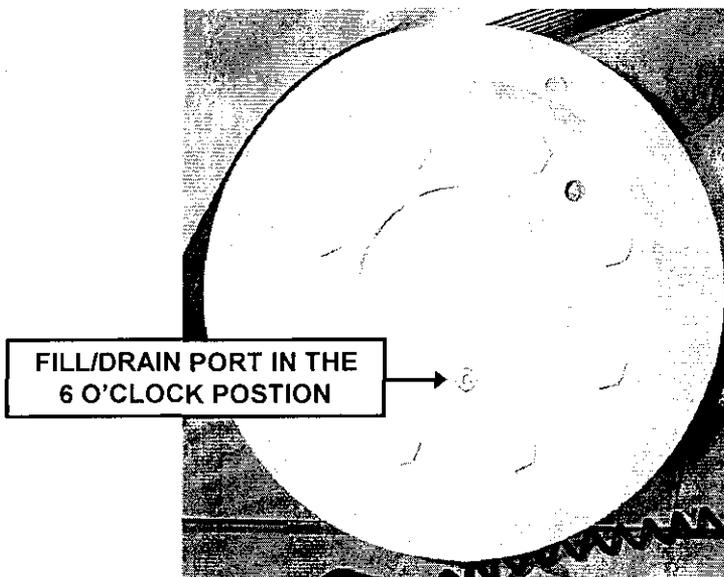

FIGURE 47
1. Rotate the pulley until the fill/drain port is in the 6 o'clock position. Remove the drain port plug and drain the oil (figure 47).